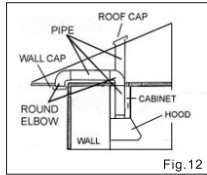

Fig.12
- a. Decide the location and measure the length of venting pipe from the hood to the outside. (Fig.12)